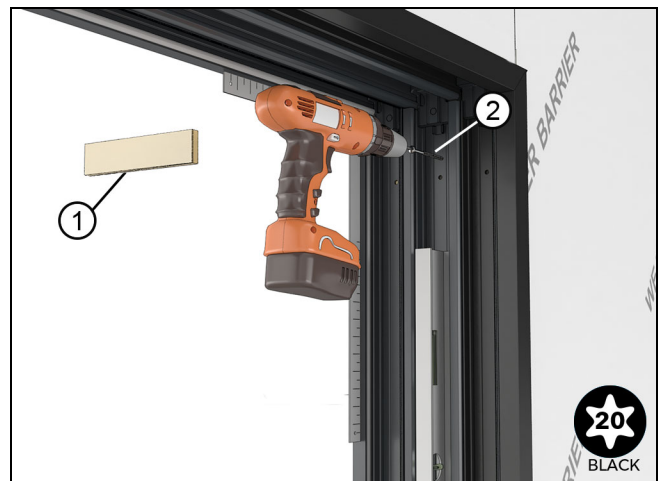

Figure 61
3. **Plumb and true the frame** so that it is aligned on the same plane. Move to the operator or opposite side and apply shims and adjust, then fasten through the operator (or opposite) jamb side near the top with a #10 x 3" (76) Torx (T20) screw provided. See Figure 61 and Figure 62.